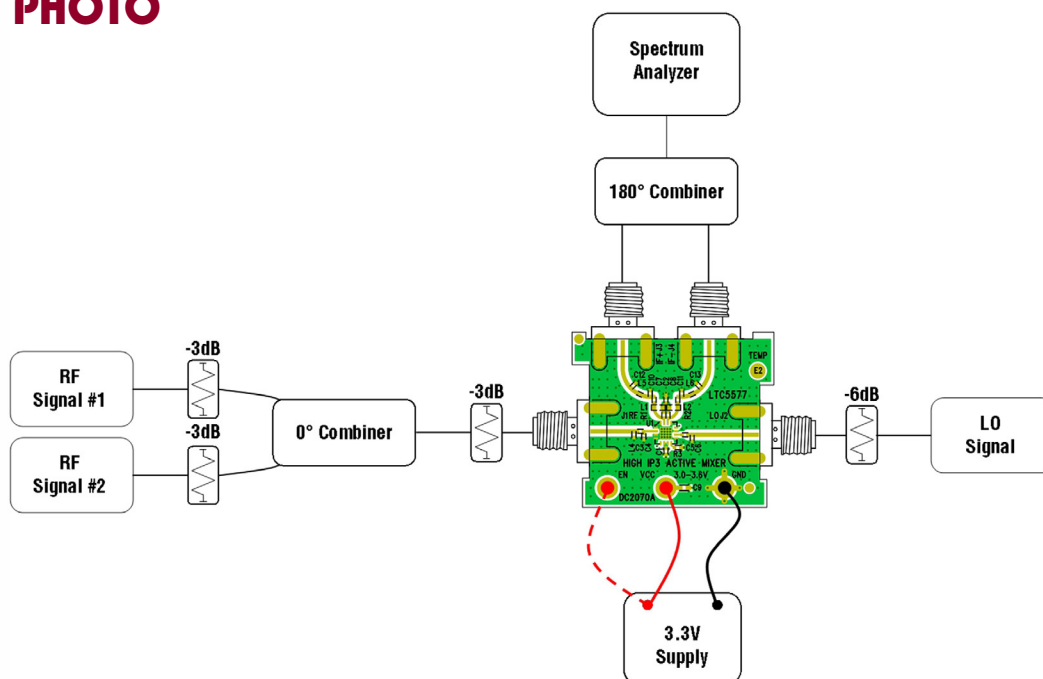

Figure 1. Test Setup for Mixer 2-Tone Measurements
- High quality combiners should be used to present a broadband 50 Ω termination on all ports as well as provide good port-to-port isolation. Attenuator pads should be used on the inputs to the combiner and the RF input port of the LTC5577 mixer, as shown in Figure 1. Adding attenuator pads further improves source isolation and helps prevent the signal generators from producing intermodulation products.
2. Connect all test equipment and the power supply as shown in Figure 1.